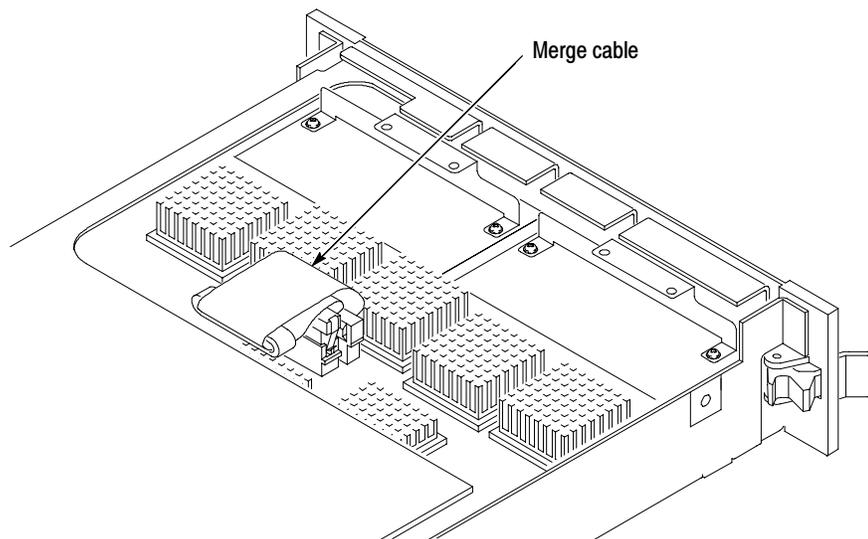

Figure 25: Positioning the merge cable before installing the cover
5. Position the merge cable as shown in Figure 25.